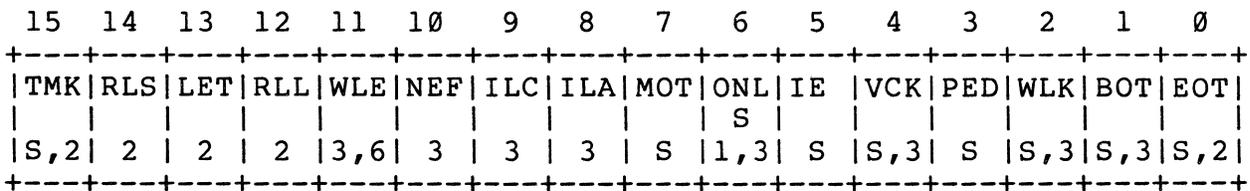

Figure 3-9 XST0 Register Format
3.3.2.5 Extended Status Register 0 (XST0) -- Extended Status Register 0 (XST0) appears as the fourth word in the Message Buffer stored by the TSV05 upon completion of a command or on an Attention (ATTN). Figure 3-9 illustrates the register format and Table 3-7 describes each bit.